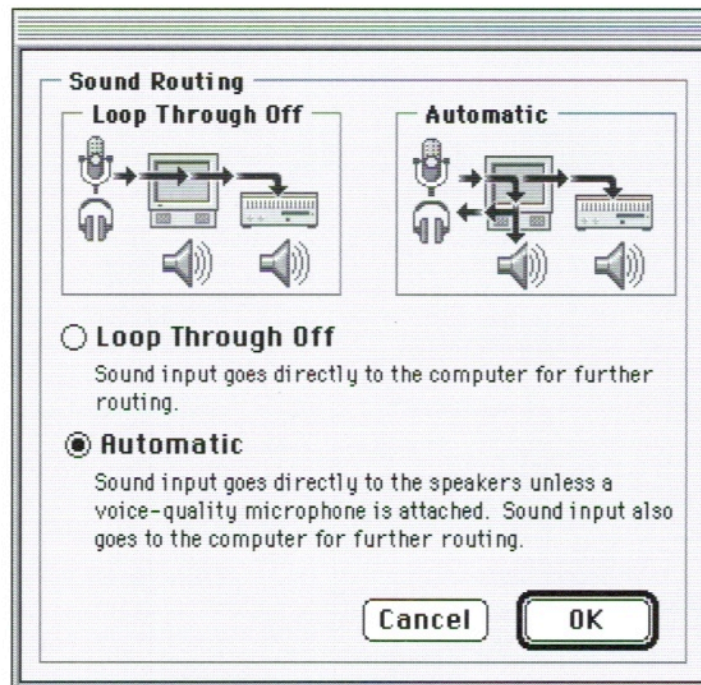

Figure 32. AudioVision Setup Sound Routing Path
2. Select a sound routing path (see Figure 32).
- “Loop Through Off” (see Figure 32) if you’re recording from a device and you don’t want to hear the sound on your display
- “Automatic” (see Figure 32) if you want sound routed to the speakers, headphones, and computer unless a voice-quality microphone is attached
4. Click OK (see Figure 32).